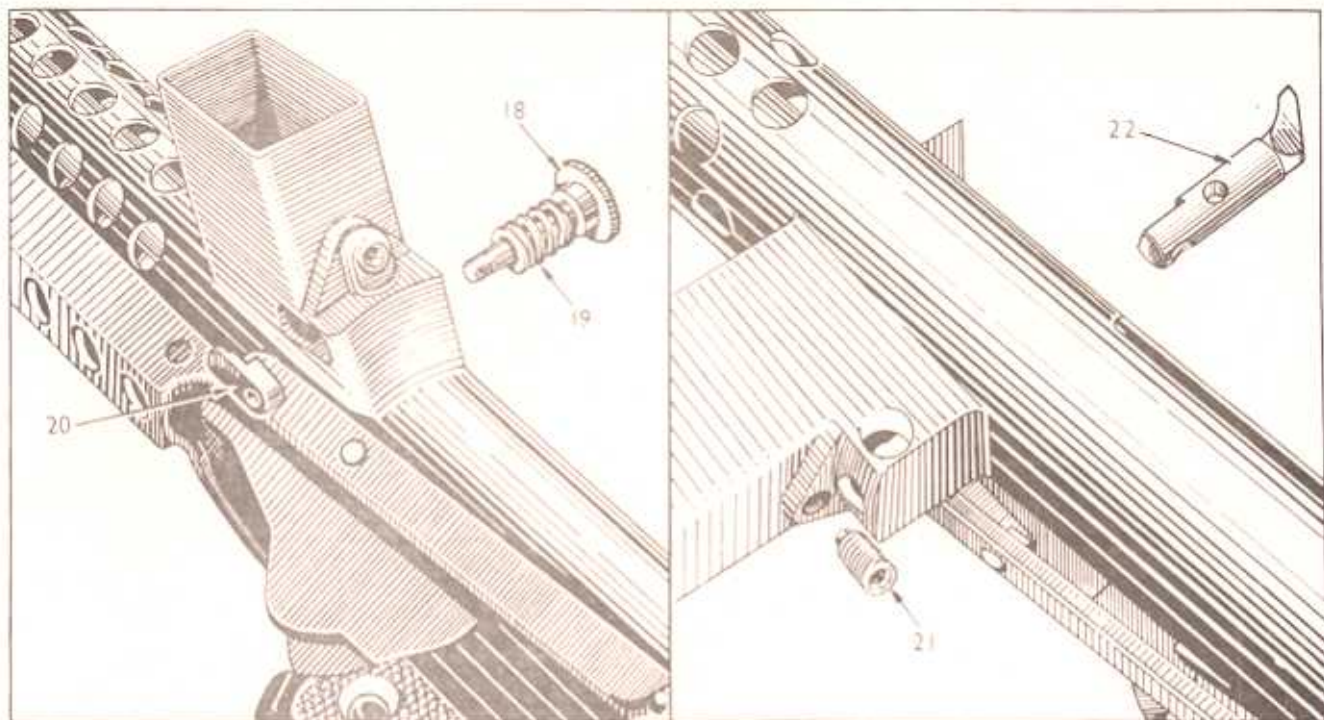

Fig. 12. To remove ejector
9.0 ADVANCED STRIPPING AND ASSEMBLY (Figs. 12, 13, 14, 15 and 16). STRIPPING.
- 9.1 **TO REMOVE EJECTOR** (Fig. 12). Using large screwdriver unscrew magazine catch screw (18), remove spring (19) and magazine catch (20). Using $\frac{1}{2}$ " Allen key remove ejector retaining screw (21). Tap out ejector (22) and remove through ejection opening in the body